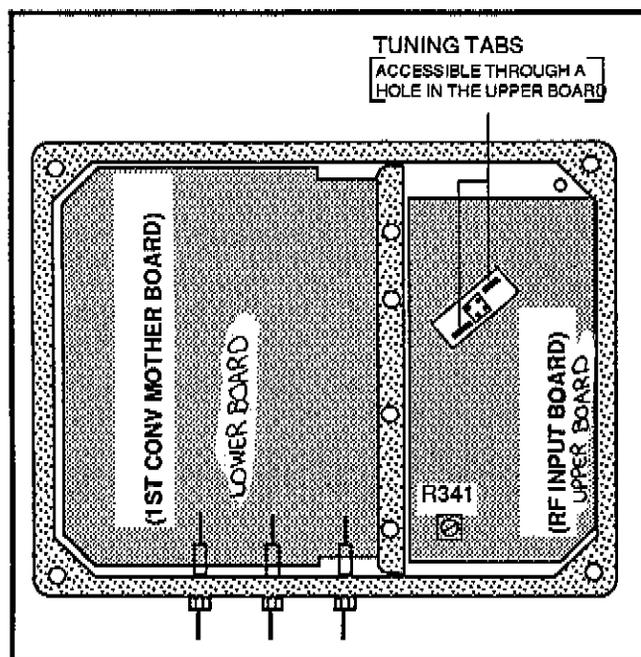
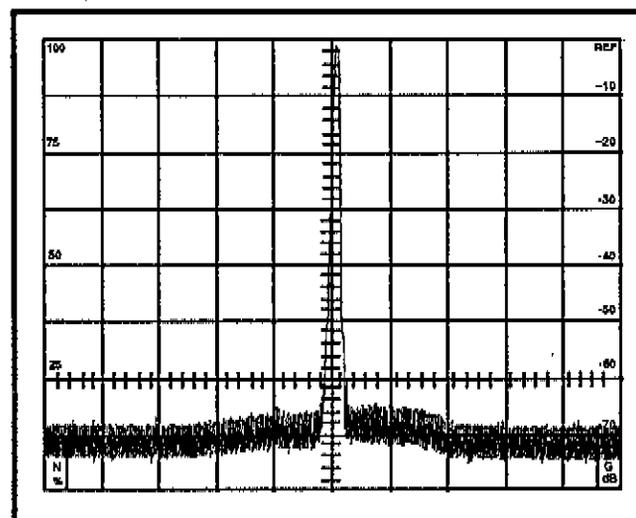

Figure 5-11. 1st Converter adjustment locations.
Figure 5-12. Typical start spur amplitude and phase noise.
b. Adjust R341 (Figure 5-11) on the 1st Converter for minimum phase noise (Figure 5-12) to the right of the start spur.
c. Adjust tuning tabs (Figure 5-11), if necessary, for a start spur amplitude ≤ -10 dBm. Phase noise must be low enough to meet sensitivity 10 KHz from 0 Hz.